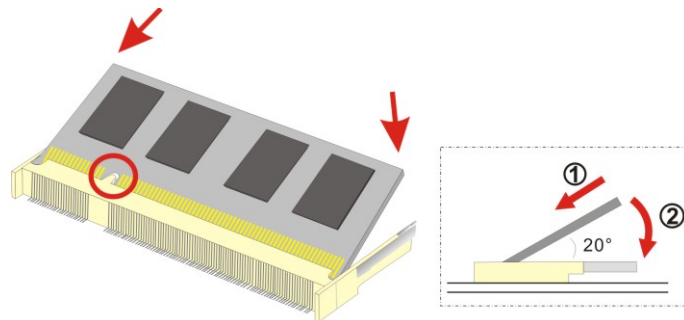

Figure 5-2: SO-DIMM Installation
Step 4: Align the new SO-DIMM with the socket. The SO-DIMM must be oriented in such a way that the notch in the middle of the SO-DIMM must be aligned with the plastic bridge in the socket (Figure 5-2).
Step 5: Insert the **SO-DIMM**. Push the SO-DIMM chip into the socket at an angle (Figure 5-2).
Step 6: Open the **SO-DIMM socket arms**. Gently pull the arms of the SO-DIMM socket out and push the rear of the SO-DIMM down (See **Figure 5-2**).